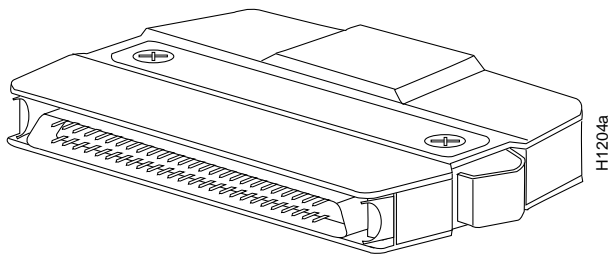

Figure 3-5 HSSI Chassis and Network SCSI-II Connector
- HSSI chassis and network SCSI-II connector, Figure 3-5
The HSSI cable uses a second generation small computer system interface (SCSI-II) connector, which is shown in Figure 3-5.